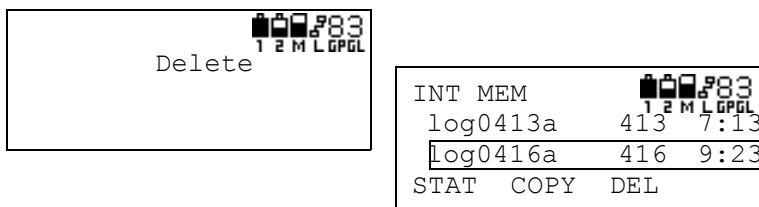

Figure 3-107. File Deleted, Press Key to Display Memory Screen
5. Once deleted, press any key to return to the memory screen (Figure 3-107).